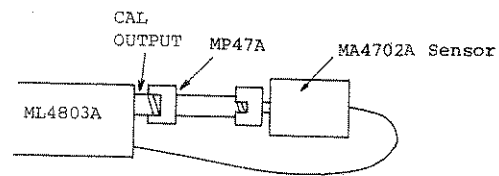

Fig. 7-5 MA4702A Sensitivity Calibration
1. Connect the MA4702A sensor to the CAL OUTPUT connector through an MP47A 30 dB Attenuator (Optional accessory) as shown in Fig.7-5.